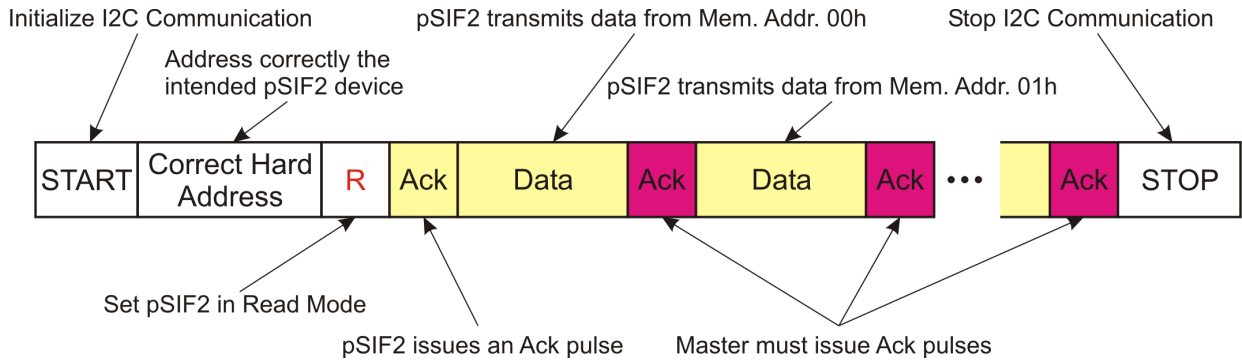

Figure 3: SIF2 Readout sequence through the ASIC's I2C interface.
- reading the device's ADC and configuration data as shown in Fig. 3